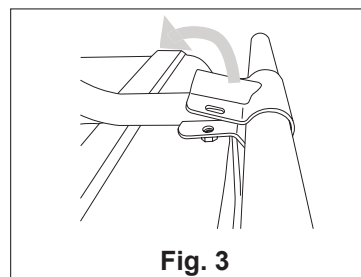

Fig. 3
3. Rotate the brackets so the bracket holes line up with the bolt holes in the lifting bar. (Fig. 3)